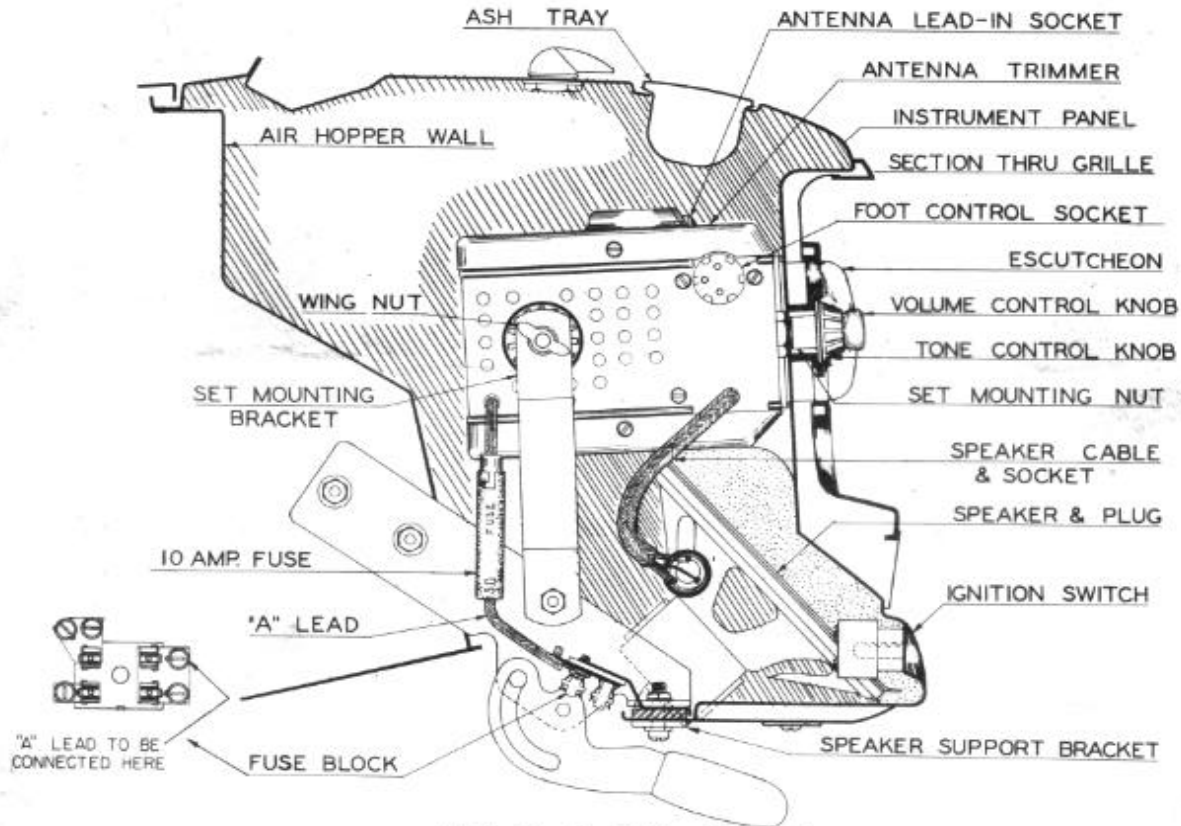

FIG. 2. Mounting Details and Connections
9. Attach set mounting bracket by fastening one end to the side of the receiver case with the wing nut. Fasten the other end of the radio mounting bracket to the cowl ventilator handle bracket with 1/4" x 3/4" M.S., flat washer, lock washer and nut. (Fig. 2.)
10. Remove cardboard protector from speaker unit and fasten speaker and bracket assembly in place with two 1/4" x 3/4" M.S. flat washers, two lock washers, and two nuts provided. (Fig. 2.) Connect the speaker-cable socket to the plug provided on the speaker frame.
14. Fasten the "A" lead to the unfused terminal of the fuse block as indicated in Figure 2.
15. IMPORTANT: Turn the receiver on and allow it to operate for approximately fifteen minutes in order for it to reach normal operating temperature. Tune in a weak station near 1200 Kc. Reach through the ash tray opening with a small screw driver and adjust the antenna trimmer, located on the top of the receiver for maximum volume. (Fig. 2.) Replace ash tray.